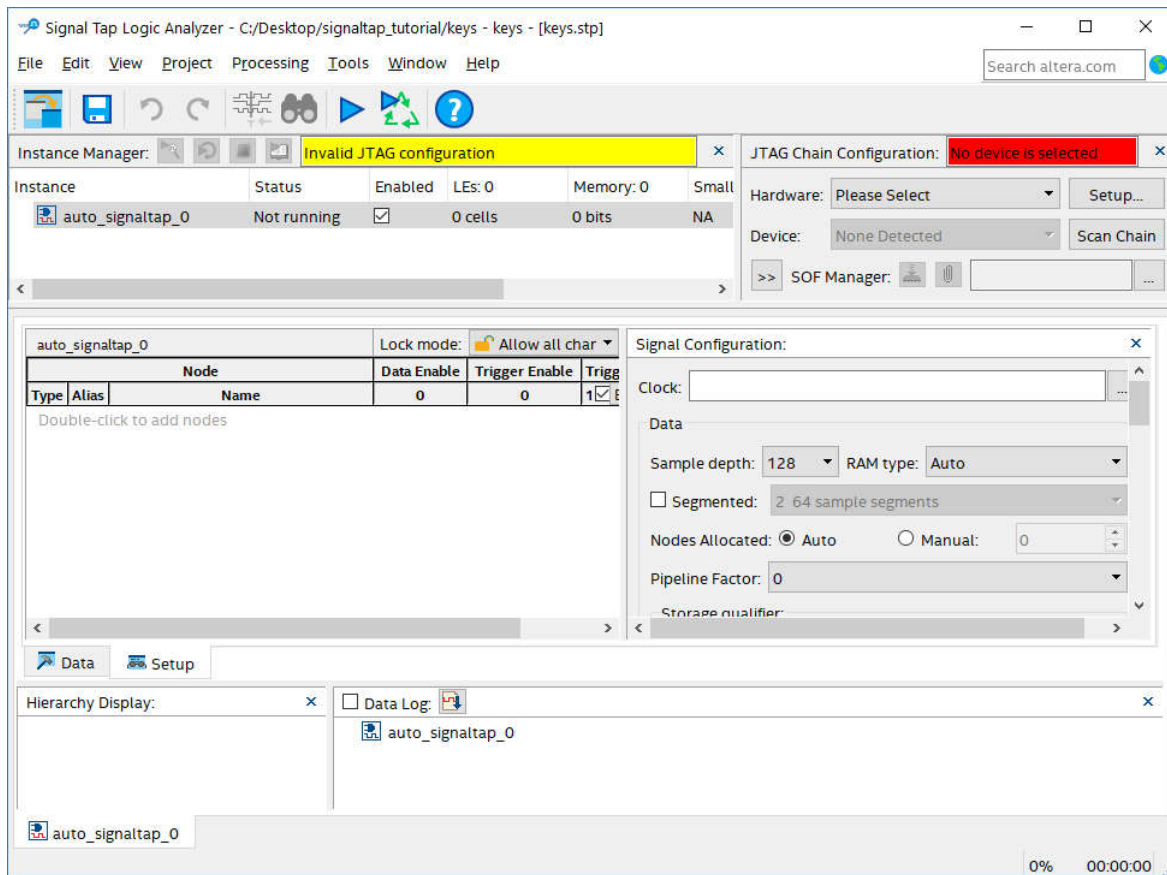
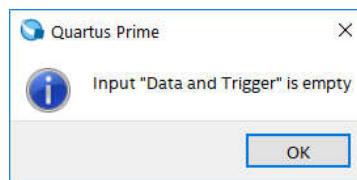
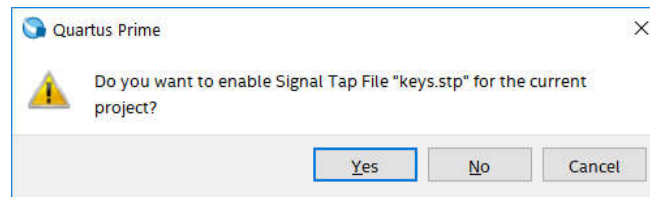

Figure 3. The SignalTap window.
Figure 4. Click OK to this dialog.
Figure 5. Click Yes to this dialog.
2. The SignalTap window with the **Setup** tab selected is depicted in Figure 3. Save the file under the name *keys.stp*. In the dialog box that follows (Figure 4), click **OK**. For the dialog "Do you want to enable SignalTap file '*keys.stp*' for the current project?" click **Yes** (Figure 5). The file *keys.stp* is now the SignalTap file associated with the project.